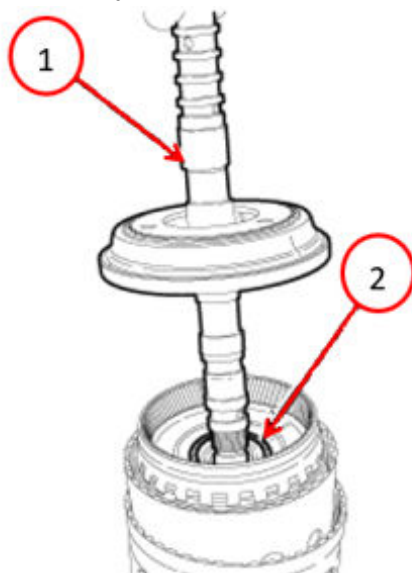

**Fig. 29**
42. Install the P2 annulus/P3 sun gear in the drum assembly Fig. 29.